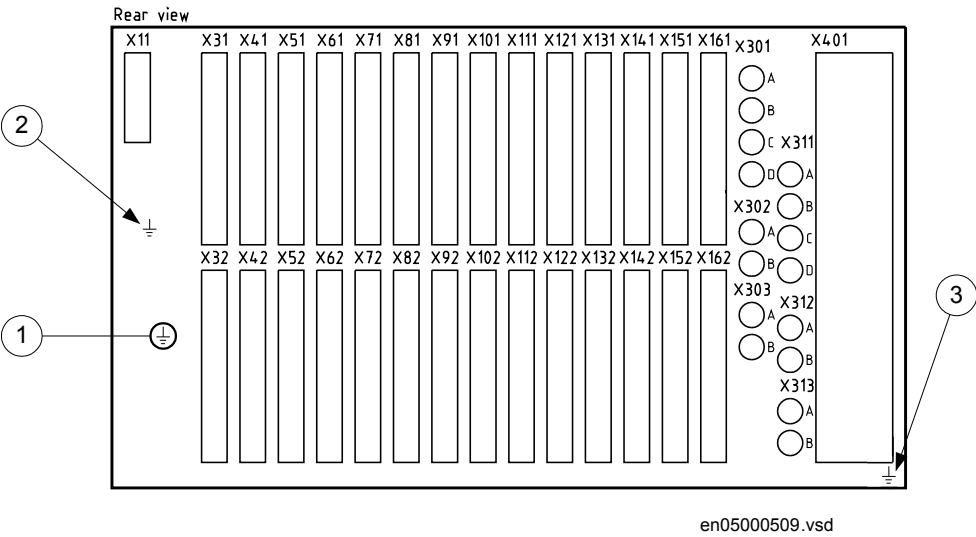

Figure 27: Rear view of IED showing earthing points.
Connect the protective earthing screw (pos 1 in figure 27) on the rear of the IED to the closest possible earthing point in the cubicle. Electrical codes and standards require that protective earth cables are green/yellow conductors with a cross section area of at least 2.5 mm² (AWG14). The Power supply module (PSM), Transformer input modules (TRM) and the enclosure are all separately earthed, see figure 27 below.